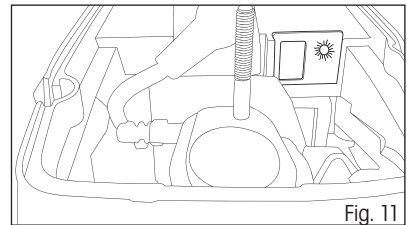

Fig. 11
- ✿ **At temperatures above +10°C, return the flap to the summer position, otherwise the motor may malfunction due to overheating. The summer position symbol „Sun“ must be visible, see fig. 11.**